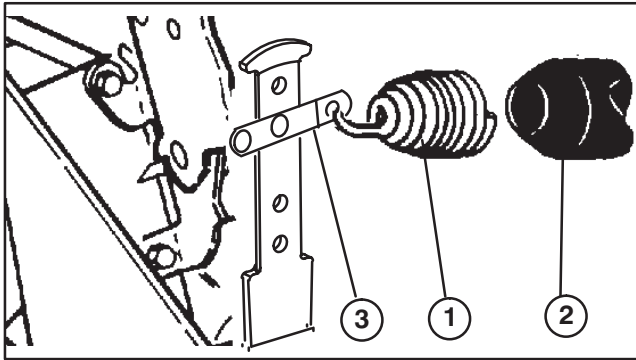

Figure 17
6. On rear counterbalance arms, install vinyl cover over spring before hooking other end of spring into spring shackle in second hole from top (Fig. 17).